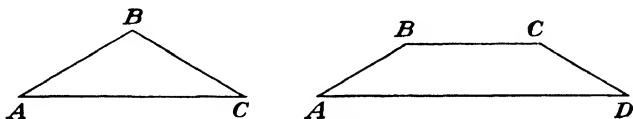

Fig. 128.
2. In your notebook draw any figures similar to Fig. 128. Construct triangle  $A'B'C'$ , each angle of which is equal to a corresponding angle of triangle  $ABC$ .